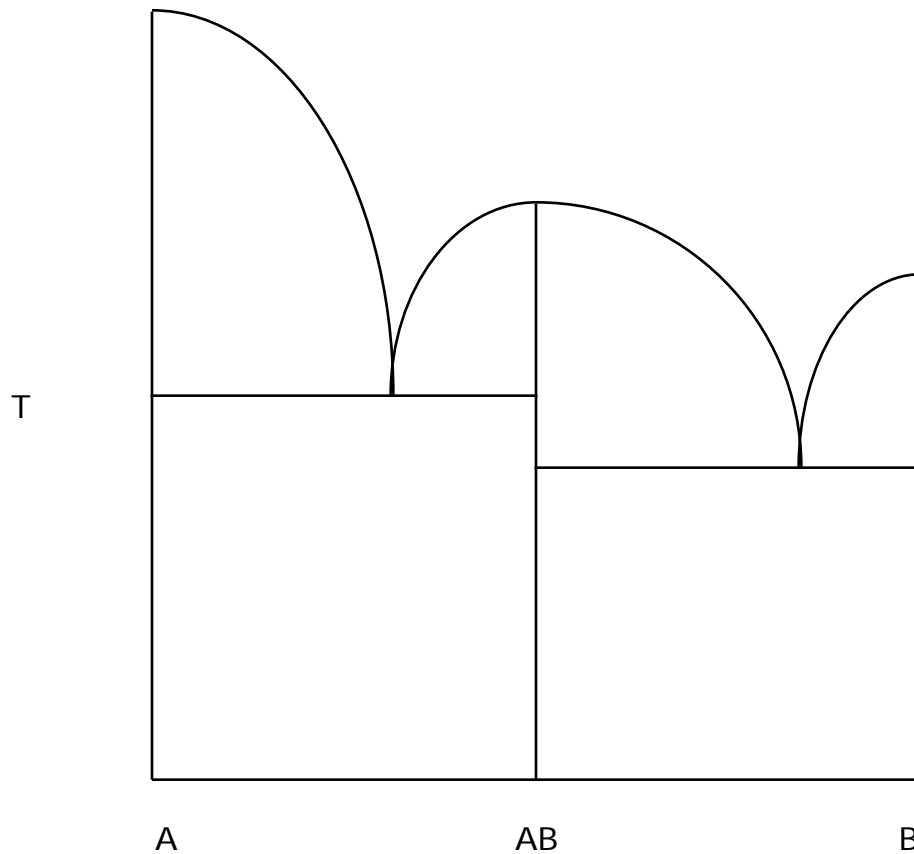

Figure 16.
In Figure 16 a phase diagram with an intermediate composition (AB) forms. AB melts congruently (goes to a liquid of composition AB). If you follow the composition AB it goes directly to a liquid at its melting temperature. Note that this diagram looks like two of the simple binary phase diagrams.